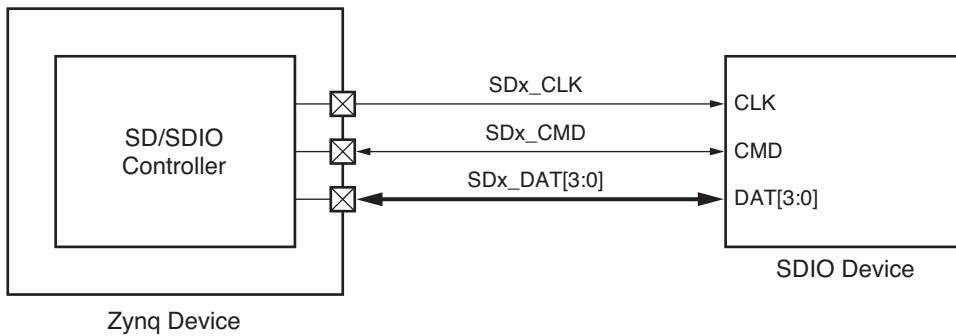

Figure 13-7: SDIO Controller Device Wiring Diagram
Zynq 7000 devices provide two secure digital (SD) ports that support SD and SDIO devices (see Figure 13-7).